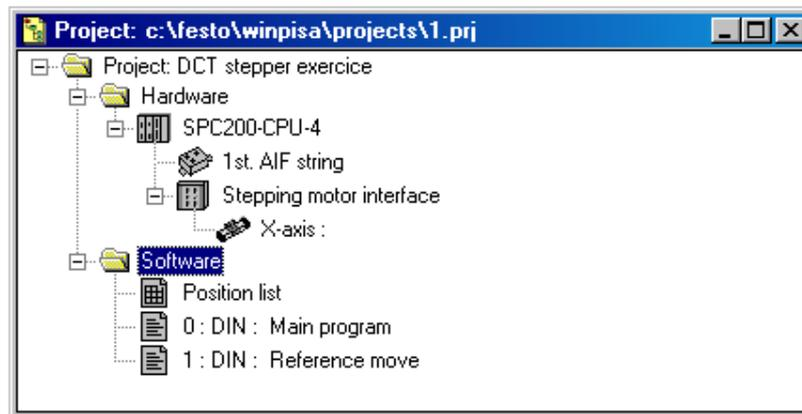

Fig. 3.2. Project window
- Select **Software** icon in the project window (Fig. 3.2).